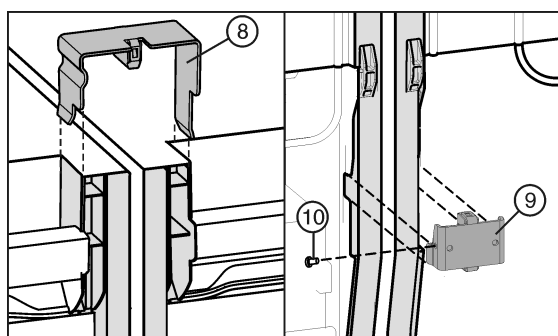

Fig. 24
- ▶ Place the connecting clamps *Fig. 24 (8)* at the top of the centre side walls.
- ▶ Insert the connecting angle *Fig. 24 (9)* underneath into the corresponding space.
- ▶ If the connecting angle is somewhat loose, fit a screw *Fig. 24 (10)*.